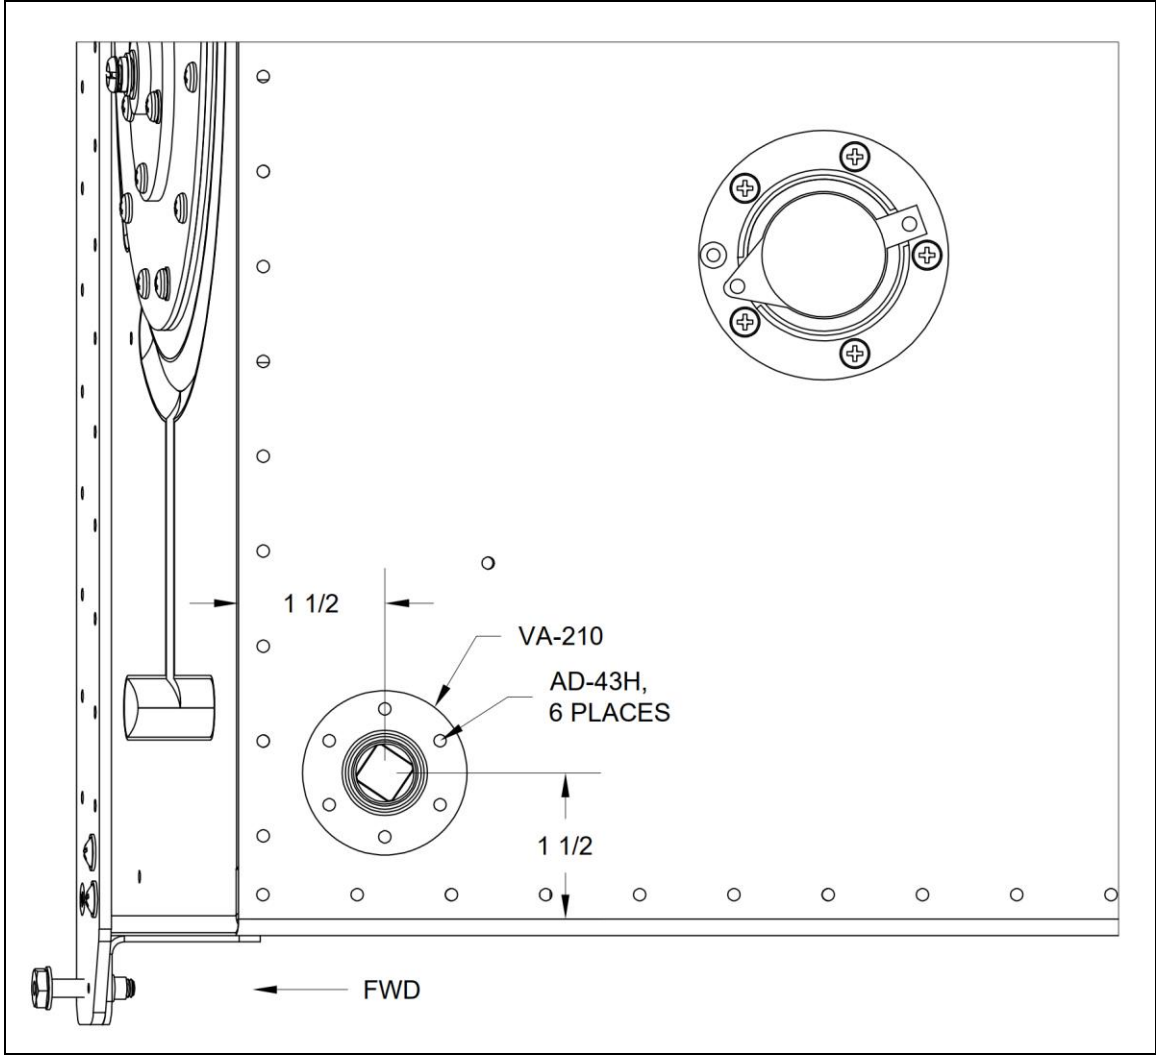

FIGURE 1: RV-12 VA-210 POSITION
Step 4: At the location shown in Figure 1, use a step drill to drill a 9/16 hole in the top skin of the tank.
Step 5: Center the VA-210 Fuel Flange on the hole made in the previous step. See Figures 1 and 2.
Step 9: Apply fuel tank sealant to the bottom face of the VA-210, then cleco in place. Spin the ends of the blind rivets called out in Figure 1 in fuel tank sealant, then rivet the VA-210 to the top face of the tank. Allow the sealant to cure as indicated in the instructions supplied with the sealant.